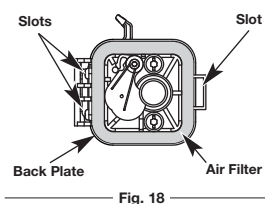

Fig. 18
2. Remove the air filter (Fig. 18).
6. Replace the filter (Fig. 18).
7. To reinstall the air filter cover, position the hooks on the left side of the air filter cover into the slots at the left side of the back plate (Fig. 18).